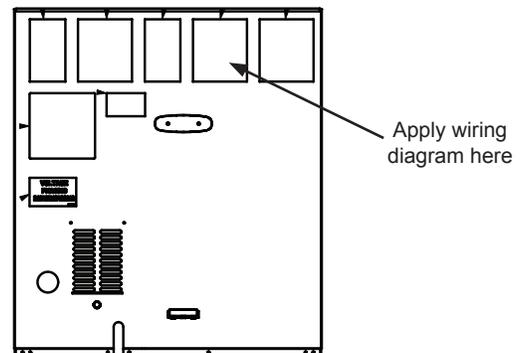

Figure 9 - Label Installation
7. Apply wiring diagram to the control panel. See Figure 9.
The DCV SET potentiometer is factory-set at approximately 50% of the potentiometer range. Using a standard 1-2000ppm CO₂ sensor, dampers will start to open when the IAQ sensor reads approximately 1000ppm. Adjust the DCV SET potentiometer to the approximate setting specified by the controls contractor. Refer to Fig. 9.